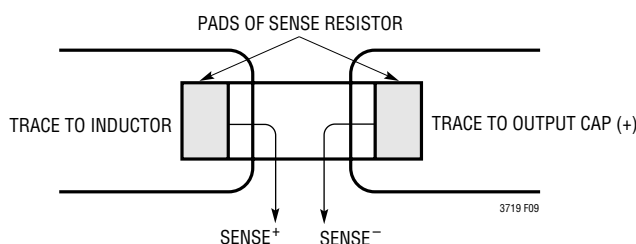

Figure 8. Proper Current Sense Connections
3) Are the $SENSE^-$ and $SENSE^+$ leads routed together with minimum PC trace spacing? The filter capacitors between $SENSE^+$ and $SENSE^-$ pin pairs should be as close as possible to the LTC3719. Ensure accurate current sensing with Kelvin connections at the current sense resistor. See Figure 8.